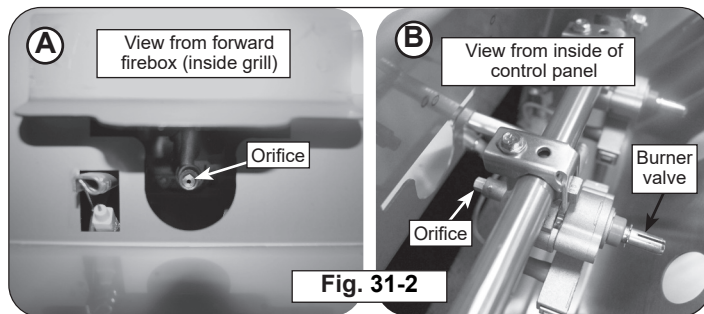

Fig. 31-2
3. Use a 1/4" hex deep socket nut driver to remove the exposed orifices. Access the orifices through the holes in the forward firebox plate inside the grill (see Fig. 31-2, A). Check orifices. If needed, replace all with the correct orifices for the new gas.
Alternatively, the orifices can be accessed through the inside of the control panel if the proper tool is not available (see Fig. 31-2, B). This allows a 1/4" open-end wrench to be used instead of a 1/4" hex deep socket nut driver. To open the control panel, see the CONTROL PANEL REMOVAL section.